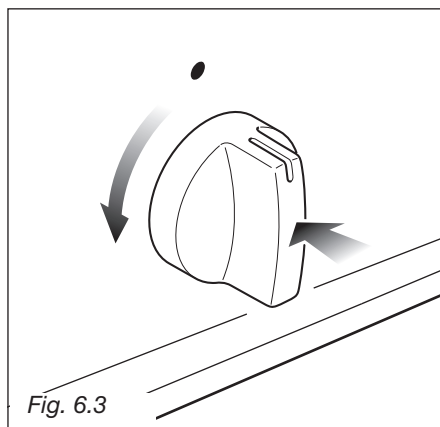

Fig. 6.3
- 2) Lightly press and turn the temperature knob anti-clockwise (fig. 6.3) to the max position (★ fig. 6.1).